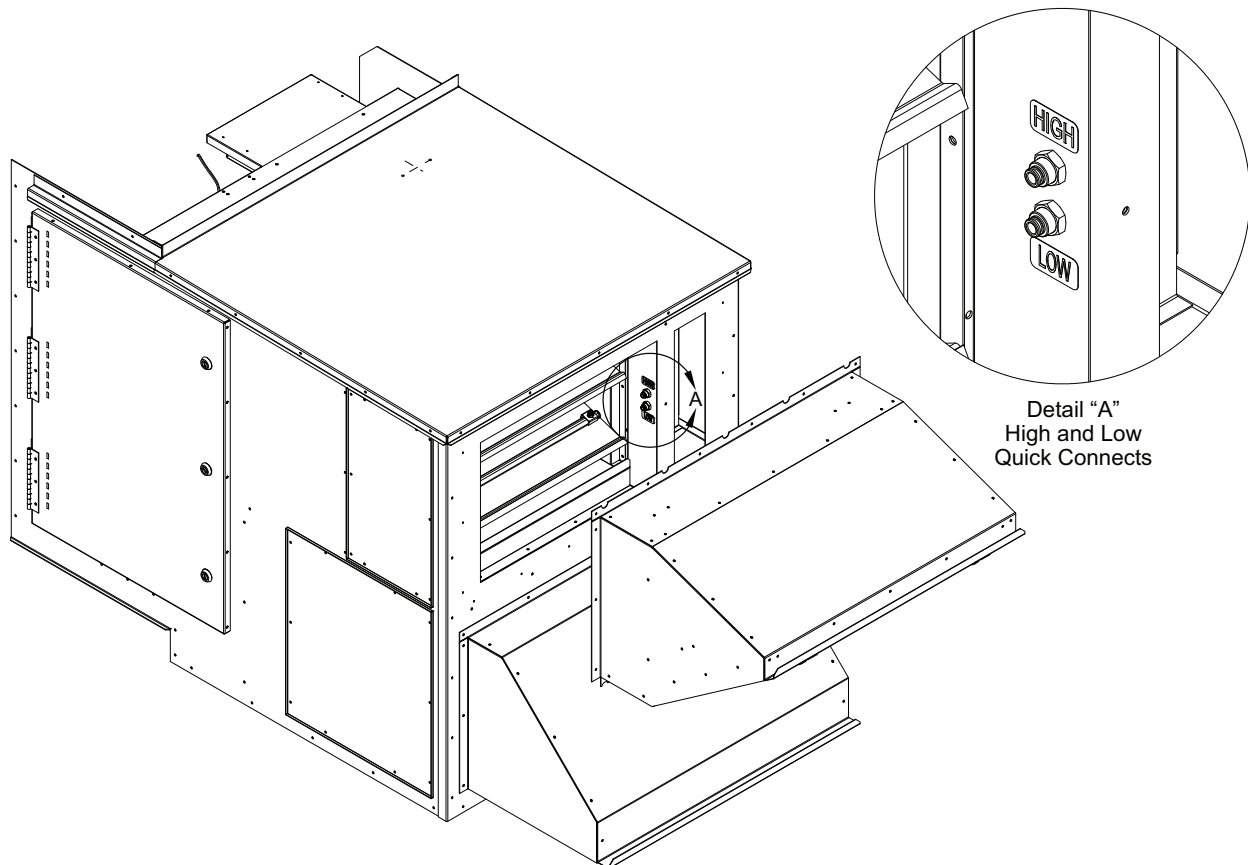

Fig. 53 — Outside Air Hood Removal
2. Remove the hood by removing the self-sealing screws along the perimeter of the hood. See Fig. 53.